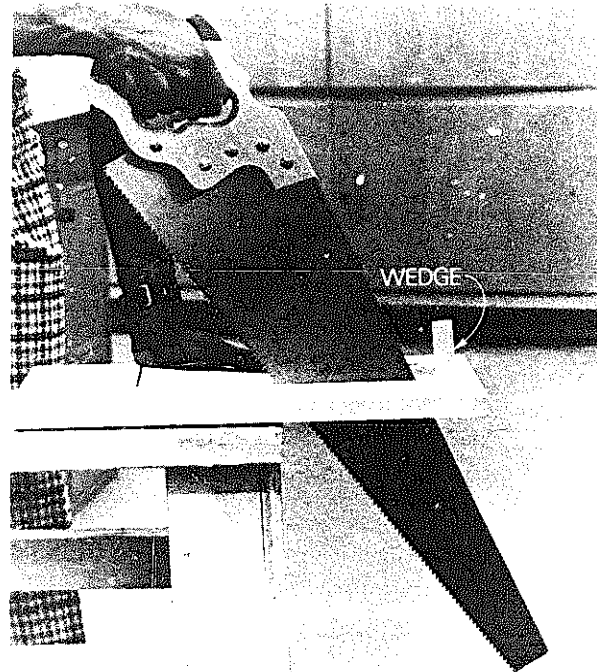

Fig. 6-11 A wedge is inserted in the kerf to prevent binding.
5. If the saw binds when making long cuts, it might be necessary to force a small wooden wedge into the cut and spread it. See figure 6-11.